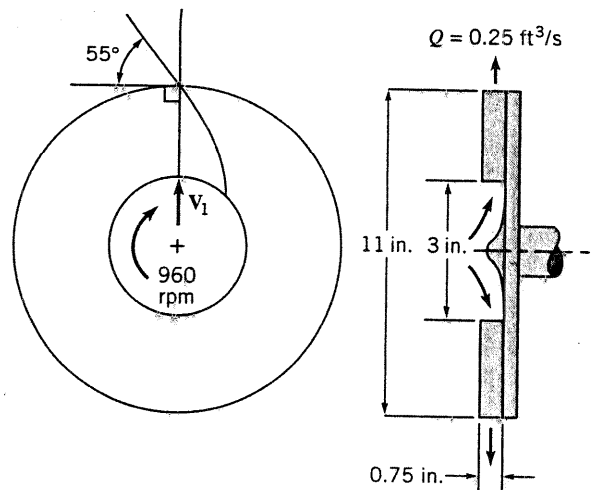

FIGURE P12.12
12.12 A centrifugal radial water pump has the dimensions shown in Fig. P12.12. The volume rate of flow is  $0.25 \text{ ft}^3/\text{s}$ , and the absolute inlet velocity is directed radially outward. The angular velocity of the impeller is  $960 \text{ rpm}$ . The exit velocity as seen from a coordinate system attached to the impeller can be assumed to be tangent to the vane at its trailing edge. Calculate the power required to drive the pump.